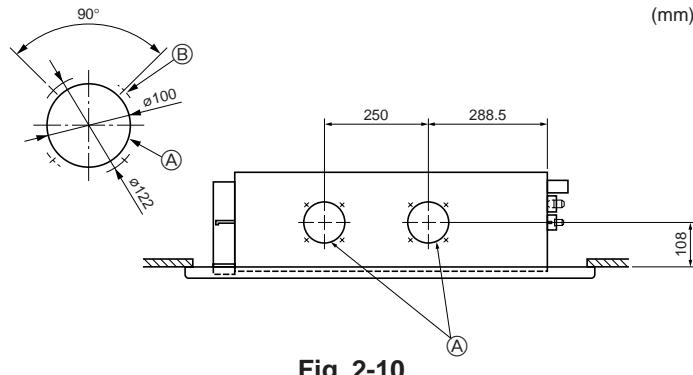

**Fig. 2-8**
4. Check that the four corners are all level, using a spirit level or clear plastic tubing with water in it. (Fig. 2-8)